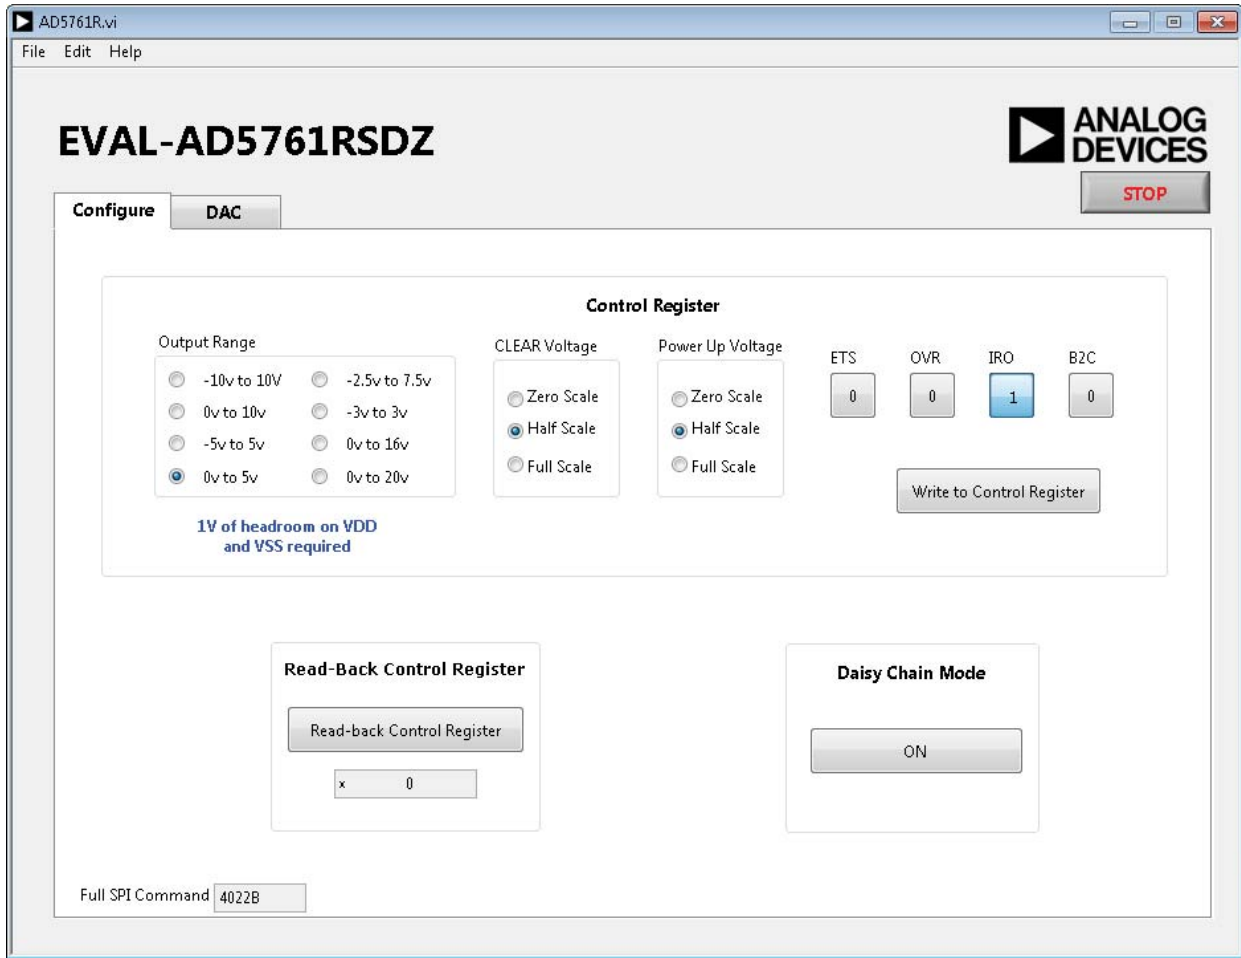

Figure 7. Evaluation Software Main Window, **Configure** Tab
1. From the **Start** menu, click **Analog Devices > AD5761R > AD5761R Evaluation Software**. The main window of the software opens (see Figure 7).
The **Configure** tab allows access to the control register and the mode of the daisy-chain functionality of the device. Figure 7 shows the **Configure** tab in the main window.
The AD5761R requires an initial command to write to the control register to remove the output clamp to ground. A dialog box appears as a reminder to write to the control register (see Figure 6). During the same write, configure the AD5761R as necessary to modify the default values for the power-up voltage (**Power Up Voltage**), voltage output range (**Output Range**), clear voltage (**CLEAR Voltage**), overrange (**OVR**), bipolar range coding (**B2C**), thermal shutdown alter (**ETS**), and internal reference mode (**IRO**). (See Figure 7.)